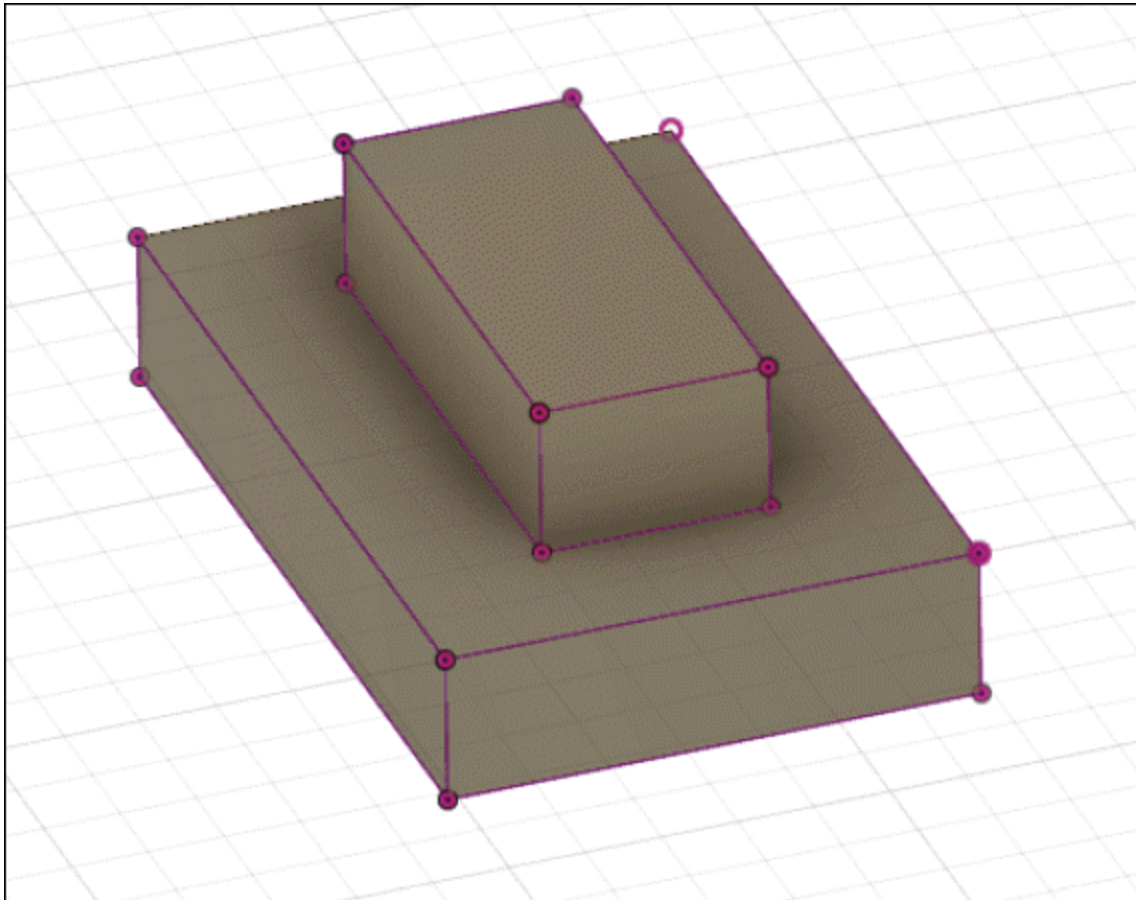

Figure-150. Boundary curves generated
- Select desired object. Boundary curves of selected object will be created on itself; refer to Figure-150.